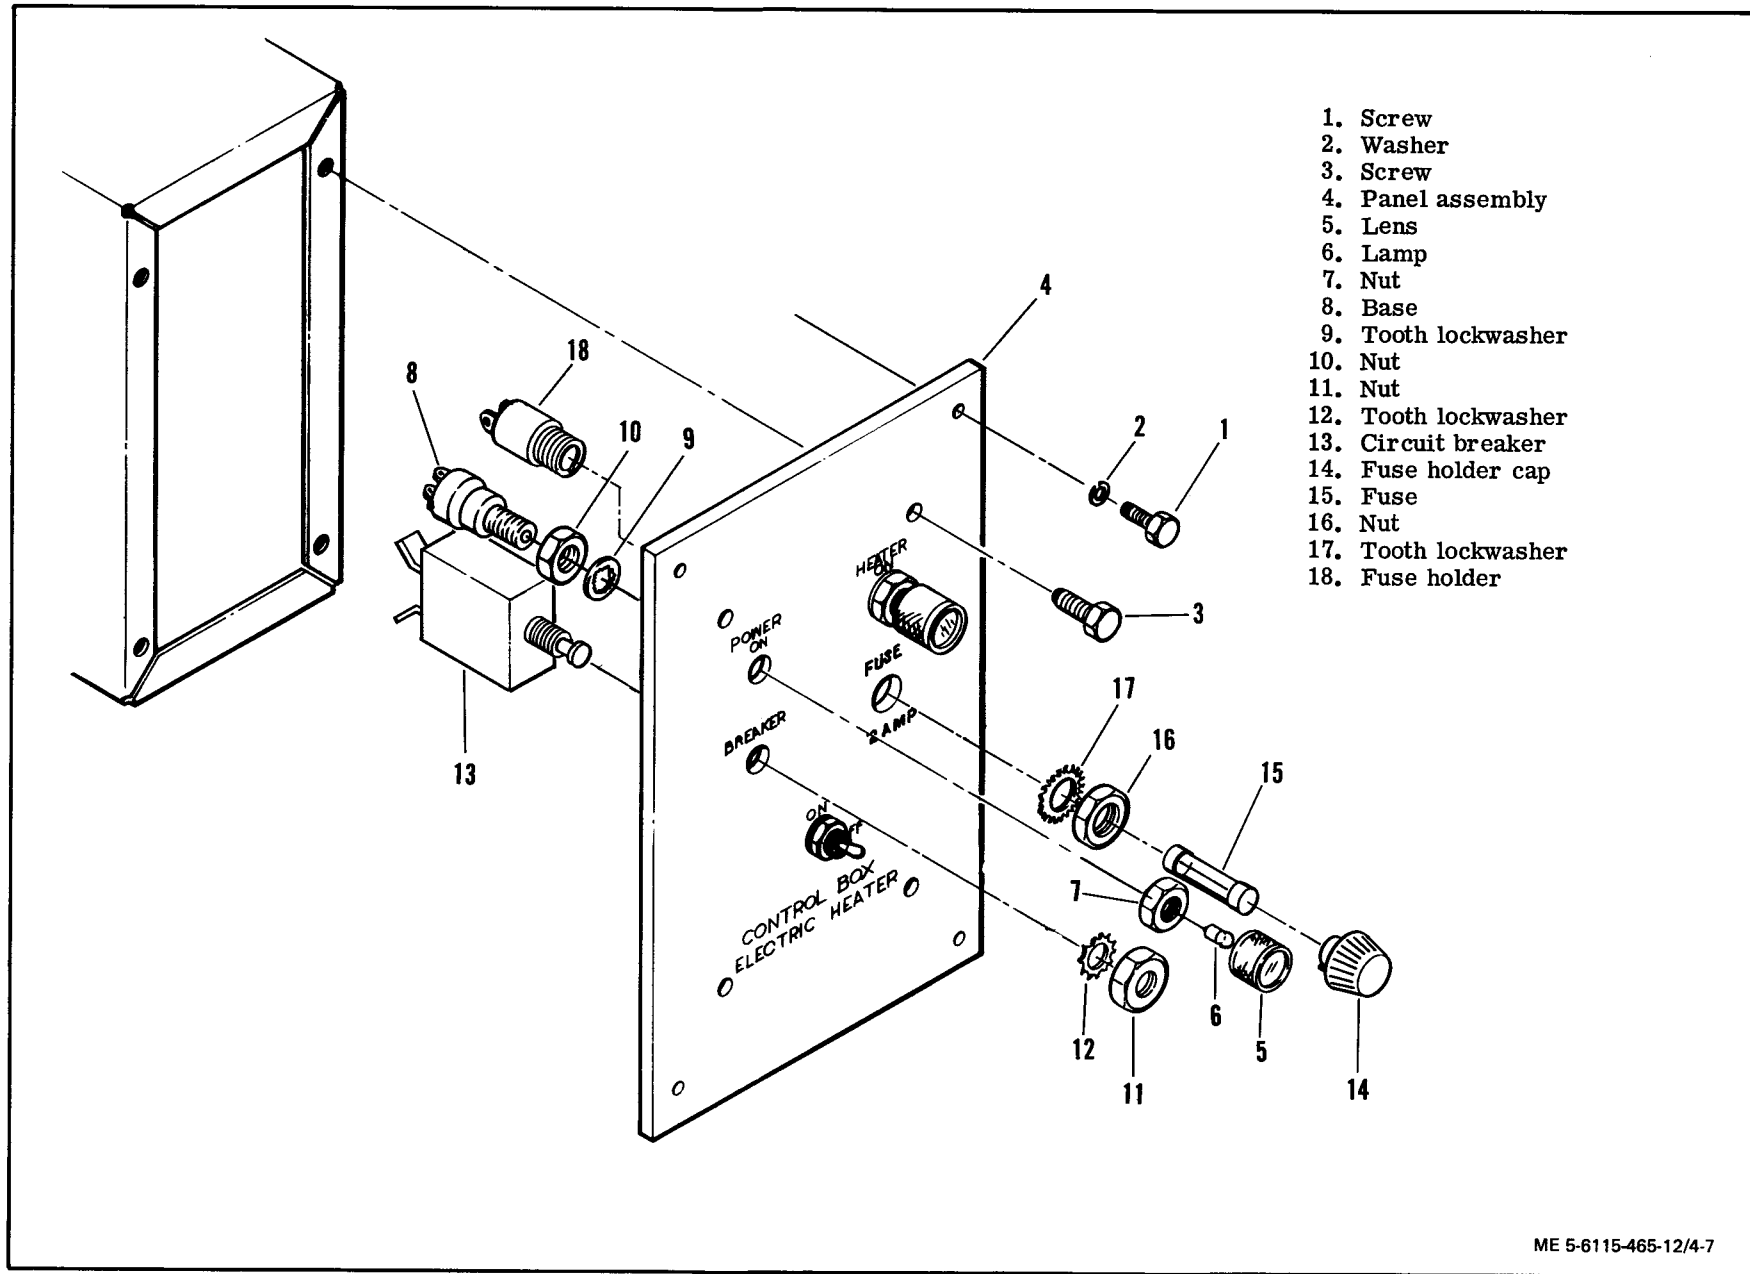

Figure 4-7. Electric Winterization Kit Control Assembly, Exploded View (Sheet 1 of 2)
(1) Removal.
(a) Remove screws (1, figure 4-7) and washers (2) and pull control box out from generator set.
(c) Remove nut (11, figure 4-7) and tooth lockwasher (12) to remove circuit breaker (13).
(2) Cleaning and Inspection.
(b) Remove fuse holder cap (14, figure 4-7) and fuse (15).
(3) Installation. Install fuse holder assembly in reverse order of removal instructions.
d. ON-OFF Switch. Visually inspect ON-OFF switch (figure 4-7) for insecure mounting, loose electrical connections, cracks, corrosion and other damage.
(1) Motor Brushes Replacement.
(d) Place ON-OFF switch (figure 4-7) in the ON position.